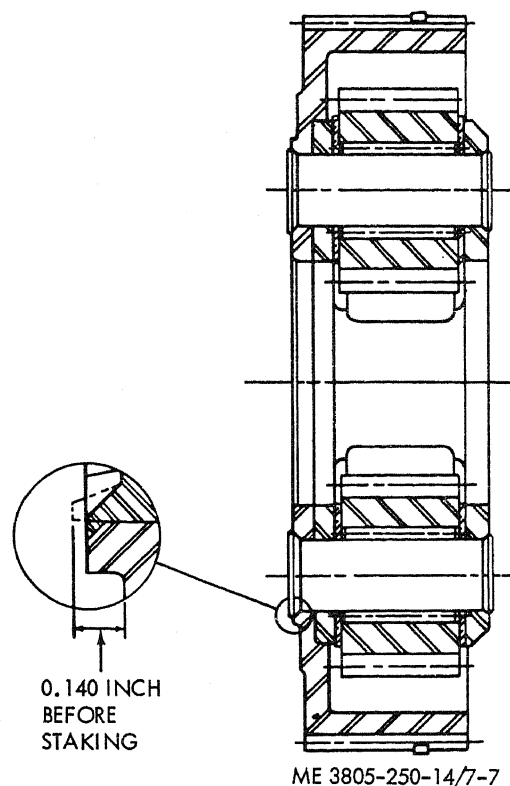

Figure 7-7. Reverse range planetary pinion pin installation.
(13) Place the carrier and pinions on the clutch hub (108). Align the hub and carrier holes with the aligning tool. Start a chilled pin (103) into the pin bore and press it in until it projects 0.140 ± 0.010 inch beyond the face of the clutch hub as shown in figure 7-7. Repeat for each pinion.